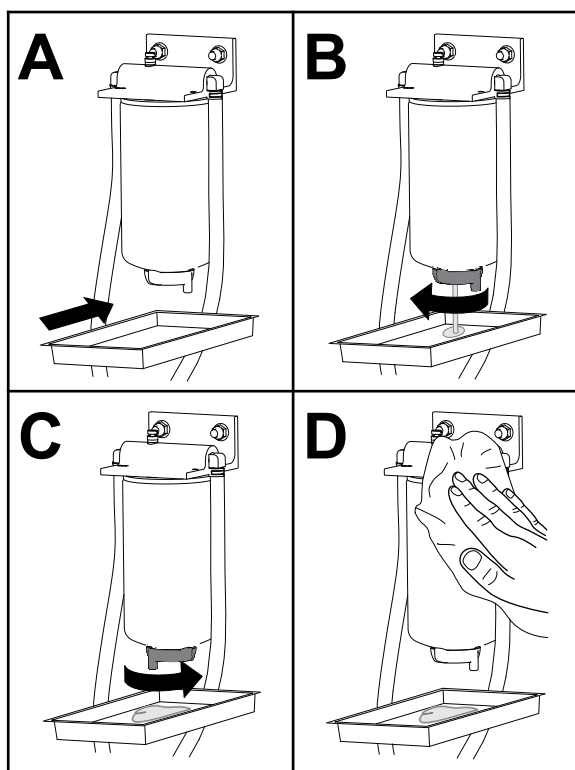

Figure 66
1. Drain water from the fuel/water separator as shown in Figure 66.